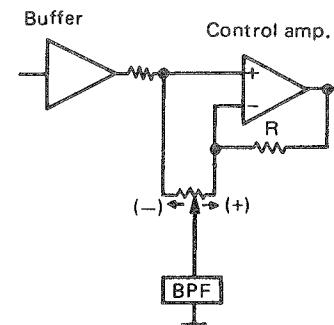
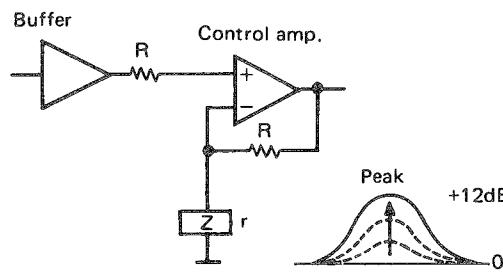

Fig. 2
Fig. 3
The equalizer circuit of this unit is shown in Fig. 2. When the control volume (VR) is turned in the direction of  $\rightarrow (+)$ , NF level lowers with the connection shown in Fig. 3, causing the gain of operation amplifier to increase, then the "peak" appears. Contrarily, when VR is turned in the direction of  $\leftarrow (-)$ , the input impedance of operation amplifier becomes lowered with the connection shown in Fig. 4. Then the frequency level is "dip".